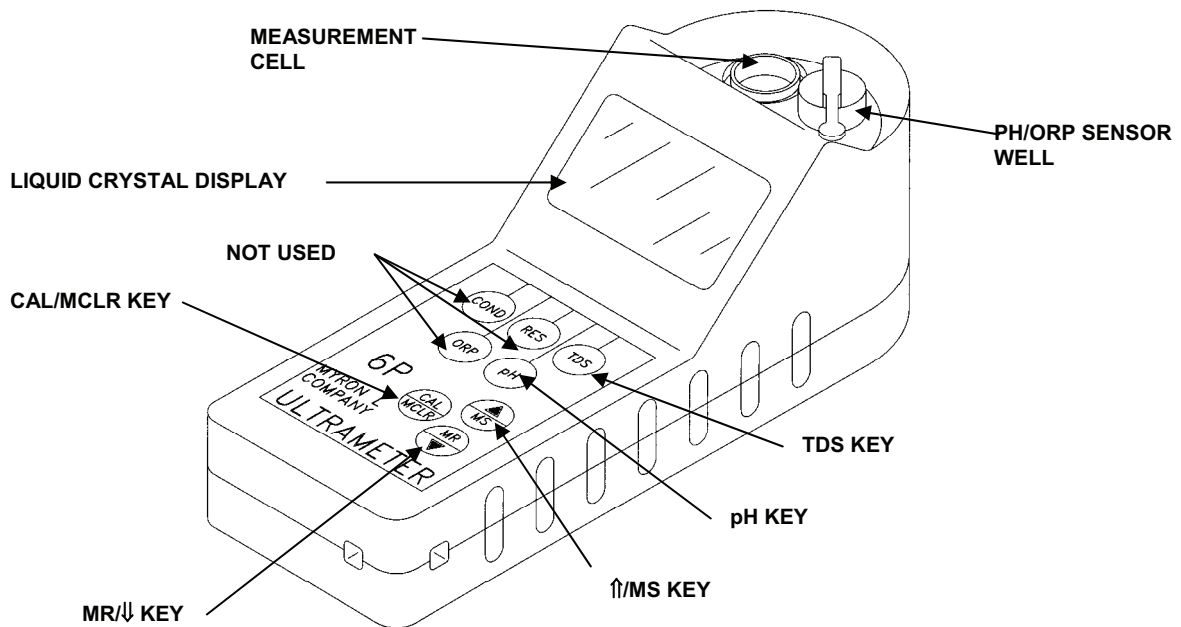

Figure 5. Conductivity Meter.
The measurement keys (TDS or pH) in the keypad turns on the instrument in the mode selected. The mode appears at the bottom of the LCD. The measurement units appear at the right of the LCD. Pressing a measurement key does this even if you are in a calibration sequence and it also serves to abandon a change. See Figure 5.
1. Press the TDS key to determine which parameter is having its solution type changed. See Figure 5.